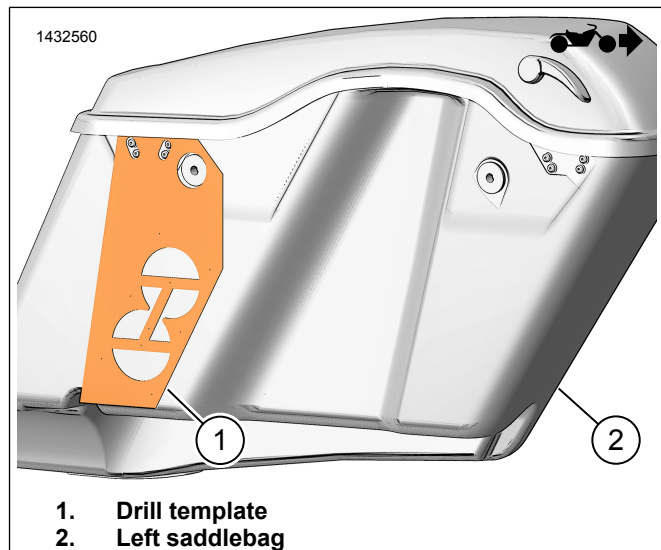

Figure 2. Left Saddlebag Template
1. See Figure 2. Position drill template (1) on left saddlebag (2).
See Figure 2. Modify left saddlebag (2).